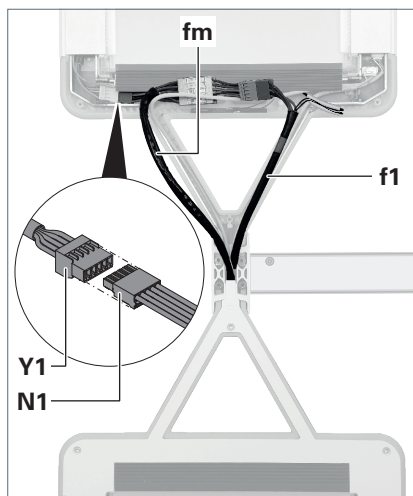

Fig. 22: Connect the supply cable.
18. In luminaire head 1, take the pin strip **Y1** out of the compartment under the heat sink, see Fig. 22.